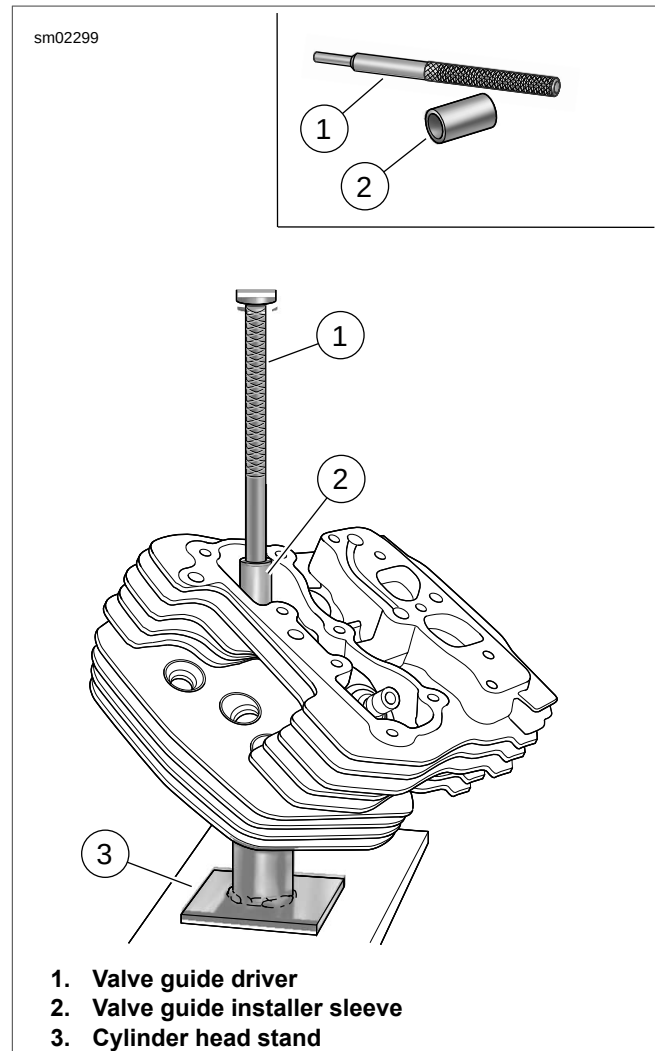

Figure 3-47. Install Valve Guide
- d. See Figure 3-47. Place VALVE GUIDE INSTALLER SLEEVE (Part No. B-45524-2A) (2) over valve guide and then insert valve guide driver (1) into sleeve.